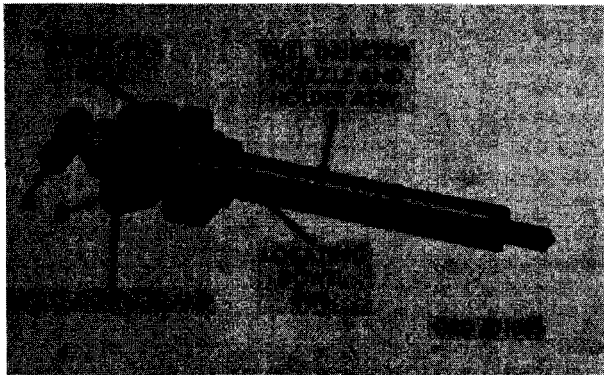

FIGURE 150. REMOVING OR INSTALLING FUEL INJECTOR NOZZLE AND HOLDER TUBE TEE AND HOLD-DOWN CLAMP.
- (3) Figure 150. (A) Remove 1/4 tube x 1/8 pipe tee from nozzle and holder assembly and seal opening in nozzle. (B) Remove hold-down clamp. Note the dowel pin hole in clamp and locating dowel pin in holder. The hold-down clamp must be installed with dowel pin entering hole to properly position the nozzle and holder assembly in the cylinder head.